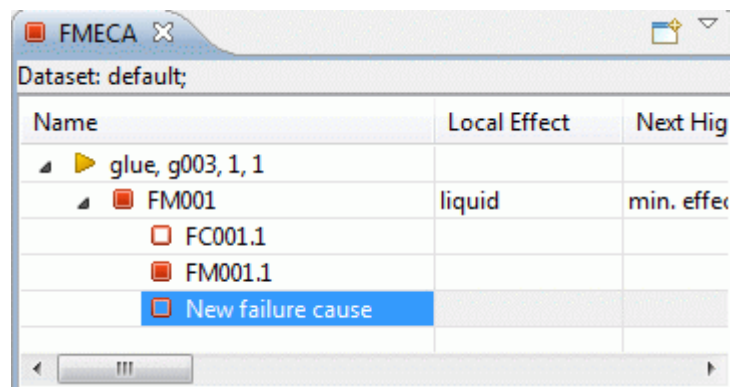

Figure 2. Created failure cause (highlighted)
- The created  failure cause object, named 'New failure cause', appears under the selected  failure mode node (see Figure 2).